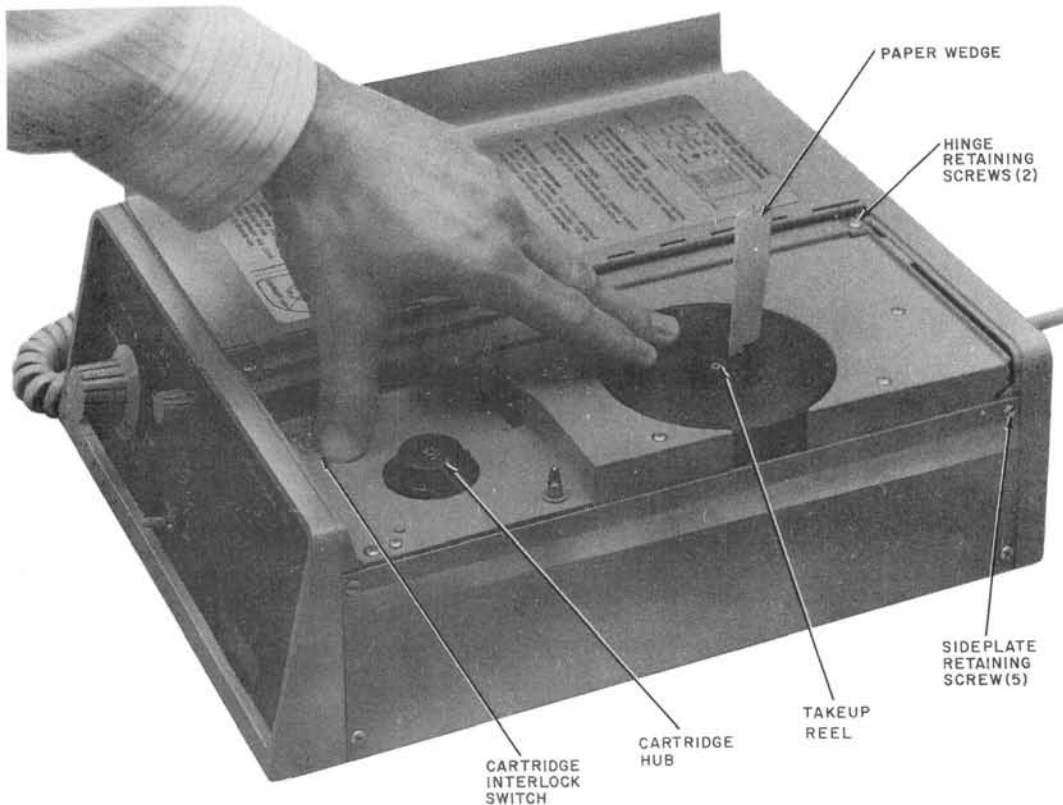
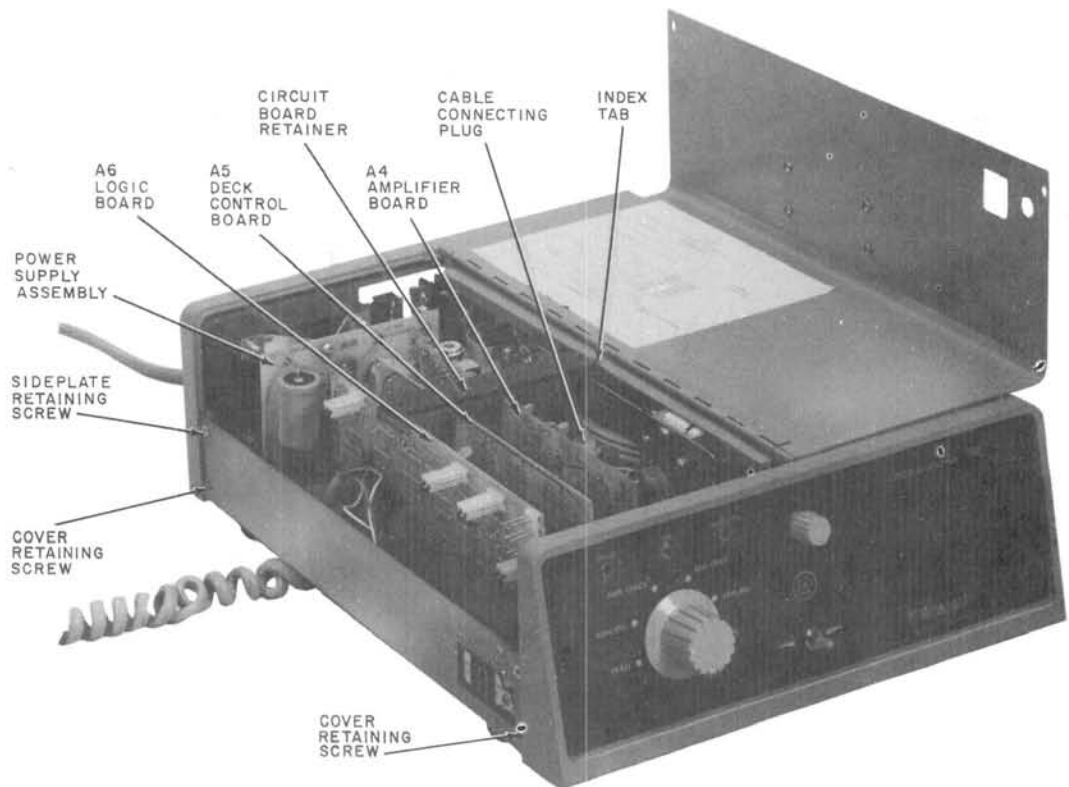

Fig. 2—Resetting "0" Registration on Message Indicator Dial
Fig. 3—Top Cover Removed, Internal View of Components
- (3) Verify the message tape is not at the end limit by making certain that the message indicator dial is reading less than 80.
- (4) Check phone connection at set terminal board for type of service.
- (5) Remove cover retaining screws from left side.
- (6) Lift left side cover and remove circuit board retainer.
- (7) Remove power cord from ac outlet.
- (8) Check options for proper selection.
- (9) Check that A4, A5, and A6 circuit boards are properly installed.
- (10) Check that cable connecting plugs for power supply and tape deck (Fig. 6) on the interconnect board and the cable connecting plug on the A4 board (Fig. 3) are firmly in place.
- (11) Replace circuit board retainer, left side cover and reinsert ac power cord.
- (1) Manual method (Fig. 2).
- (2) Rapid rewind method (Fig. 2).
4.01 Plug-in Circuit Boards (A4, A5, and A6; Fig. 3).
- (1) Remove top cover (Fig. 3).
- (d) Remove two hinge retaining screws (Fig. 2).
(2) Remove tape deck.
- (a) Remove cable connecting plug for A4 circuit board (Fig. 3).
- (g) Install cable connecting plug for A4 (Fig. 3).
- (6) Install cover.
- (d) Open left side of cover and install circuit board retainer (Fig. 3).